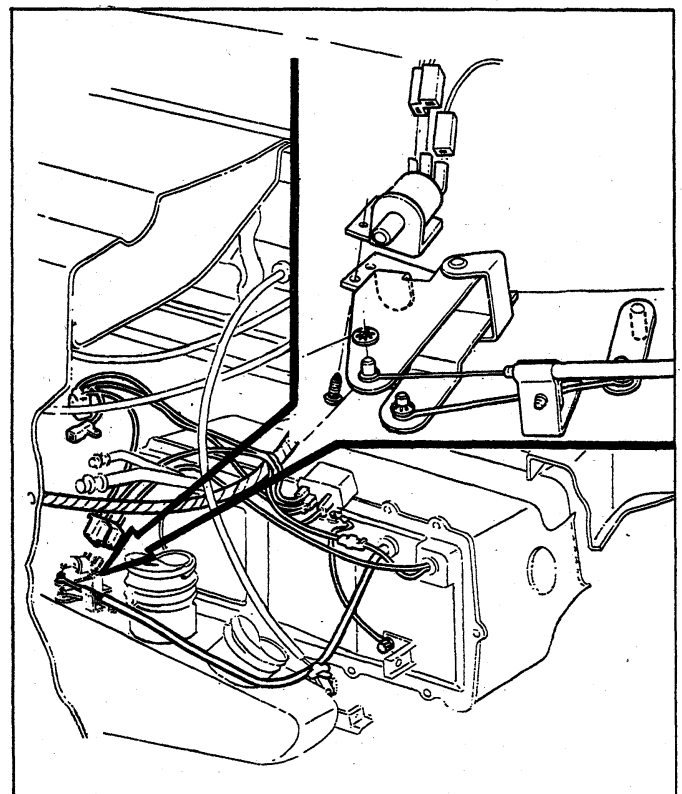

Fig. 75—Cable Removal—All Weather
5. Reach through the glove box door to disconnect the air conditioning "on" door bowden cable (fig. 75).